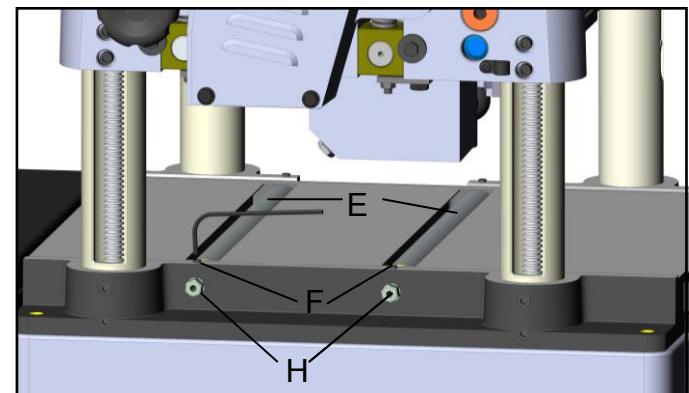
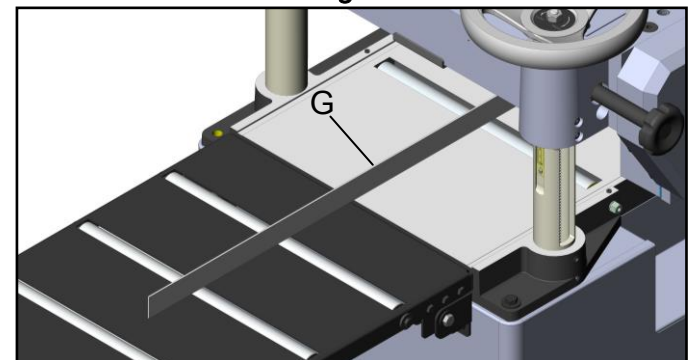

Fig. 18
Fig. 19
This planer is supplied with two table rollers (E, Fig. 18) which aid in feeding stock by reducing friction, and turn as the stock is fed through the planer.
2. Lay a straight edge (G, Fig. 19) across both rollers. Loosen the screw (F, Fig. 18), then turn the two eccentric shafts (H, Fig. 18) to raise or lower table rollers. Table rolls must also be adjusted on the opposite end of the table in the same manner. The table rollers must always be set parallel to the table.